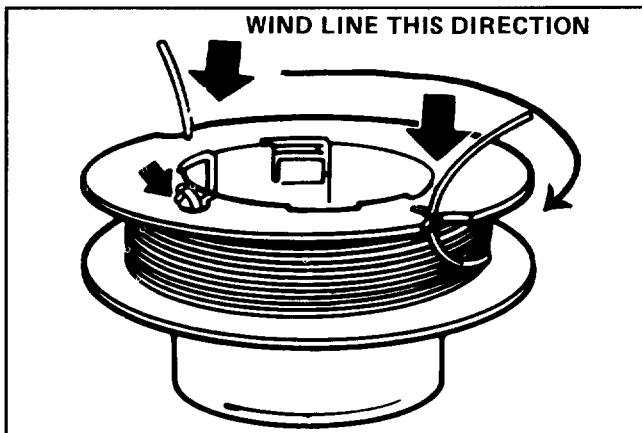

Figure 11
A. Hook one end of each line into the keyhole slot on spool. Wind both lines together around spool in level rows between spool flanges in direction shown in Figure 11.
- C. Keep line tight on spool by securing in spool notches, leaving about 4 inches of line extending beyond notch (Fig. 11).